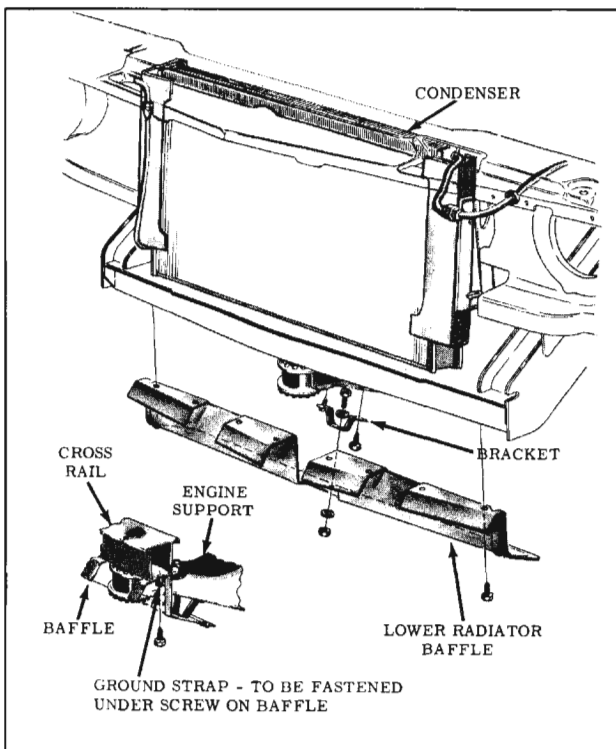

Fig. 15-133 Condenser Pipes
7. Disconnect condenser pipes from condenser. Cap lines. (Fig. 15-133)